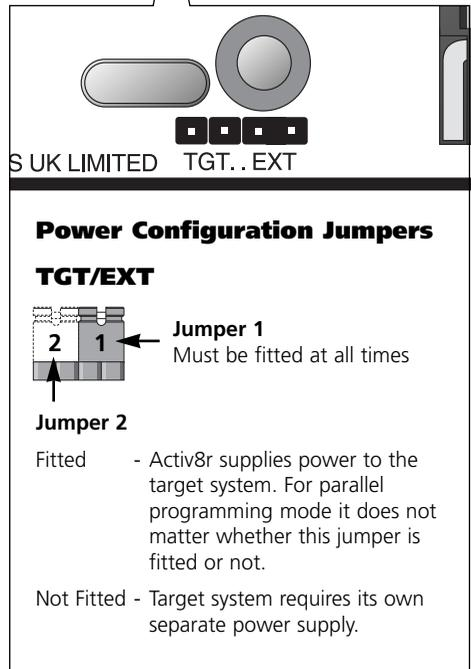

Figure 5
- 3 Make sure that both power jumpers are inserted (see figure 5)